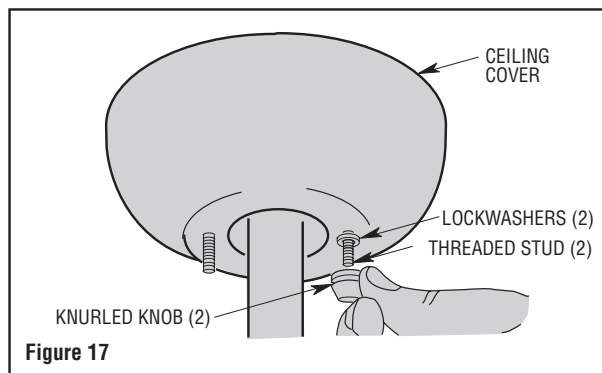

Figure 17
4. Lift the ceiling cover up to the threaded studs and turn until studs protrude through the holes in the ceiling cover (Figure 17).
5. Secure the ceiling cover in place by sliding lockwashers over the threaded studs and installing the two knurled knobs (supplied). (Figure 17.) Tighten the knurled knobs securely until the ceiling cover fits snugly against the ceiling and the hole in the ceiling cover is clear of the downrod. Your fan is now wired to be turned on and off from the fan switch.